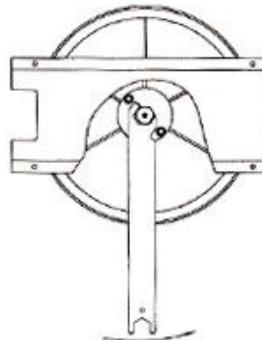
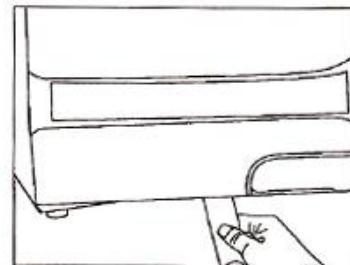

Fig 1
Fig 2
7.5.2 Insert the spanner tool in the gap beneath the plastic cover; use the spanner to grip t adjusting nut (Fig. 1). Turn the nut counter clockwise as the figure below (Fig 2). Th will tighten the sealing plate.